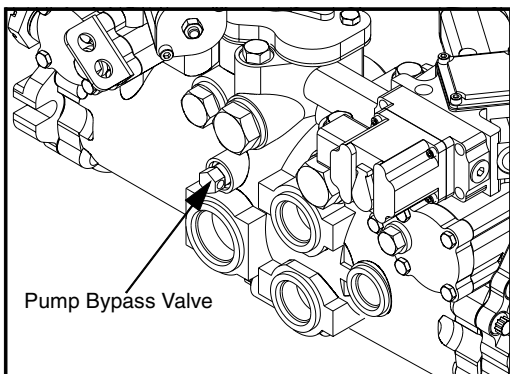

Figure 44. Travel Pump Bypass (300 Series)
- 1) Turn bypass valve on each travel pump counterclockwise slowly 2 turns. (Figure 44)
- 8) Close the bypass valves on each travel pump by rotating clockwise until snug against seat. (Figure 44)